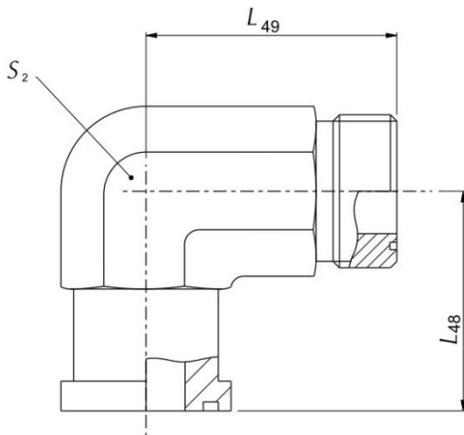

Figure 47A
**Figures 47A and 47B – Compact, short, medium and long 90° elbow